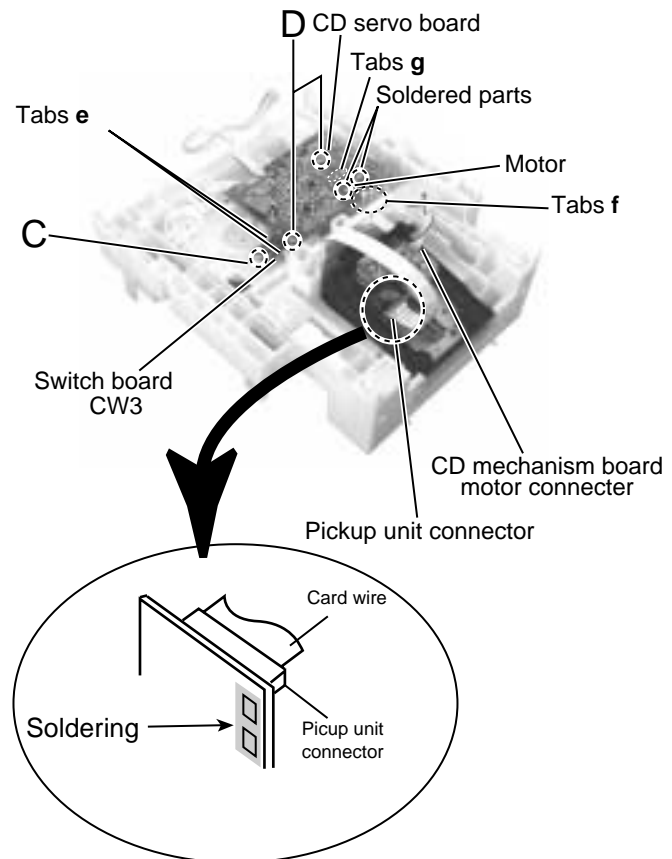

Fig.10
**Attention :** Solder is put up before the card wire is removed from the pick-up unit connector on the CD mechanism assembly. (Refer to Fig.10)